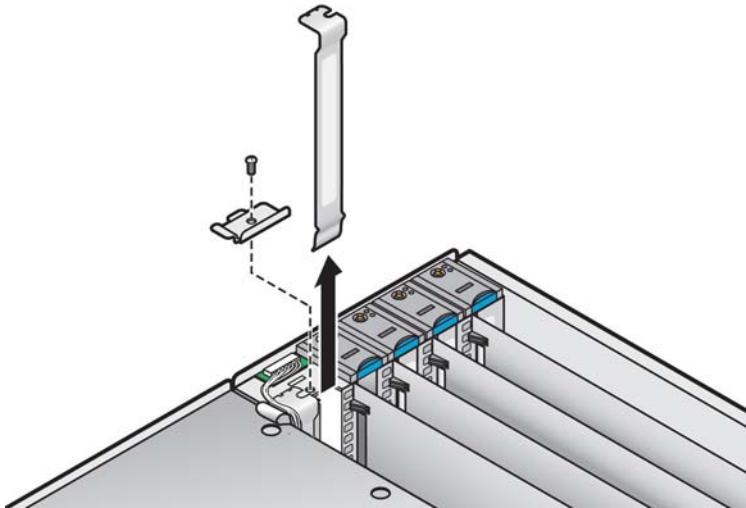

FIGURE 5-6 Removing or Installing a Vertical PCI Card That Does Not Have an MRL
- If you are replacing a card in a slot that does not have an MRL, remove the securing screw and the retaining bracket from the slot (see FIGURE 5-6).